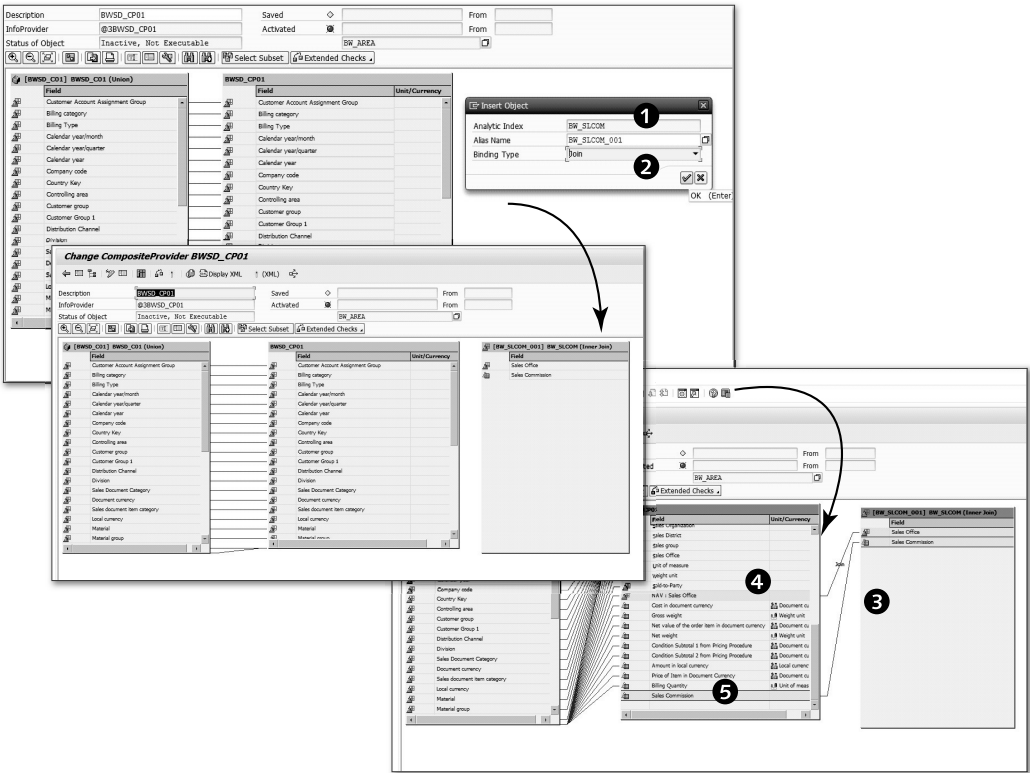

Figure 6.72 Defining a CompositeProvider: Part 2
Now identify other objects for the sales commission data from the panel on the left side by following the same process as for BWSD_C01. For this example, we selected BW_SLCOM (❶ of Figure 6.72) and chose JOIN in the BINDING TYPE field ❷.
The new object now is available in the right panel. The fields are mapped to the CompositeProvider via drag and drop (❸ of Figure 6.72). The join for SALES OFFICE ❹ is defined specifically while including the key figure for SALES COMMISSION ❺ in the CompositeProvider definition.